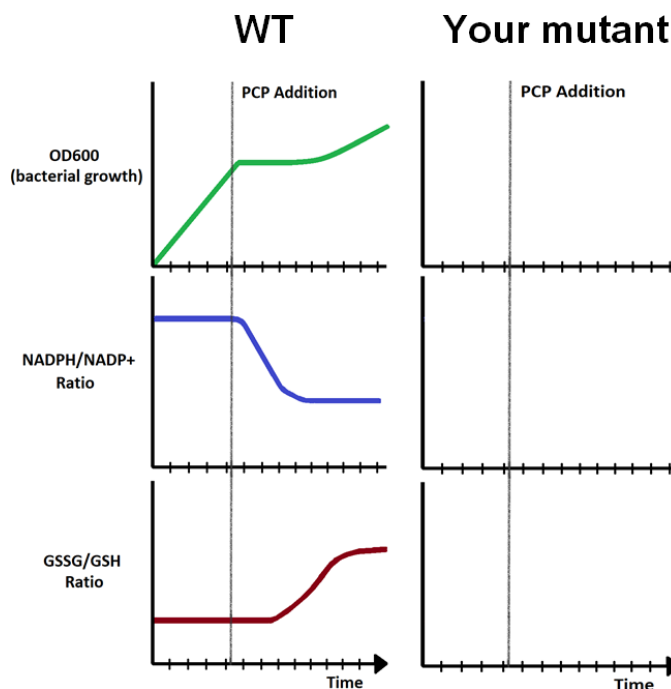

Figure 7y. Predicted graphs for Question 5.
5. Design an experiment to test the growth of your bacteria and balance of key metabolites if you make the genetic modification identified above. Draw your expected results on the graph in Figure 7y.